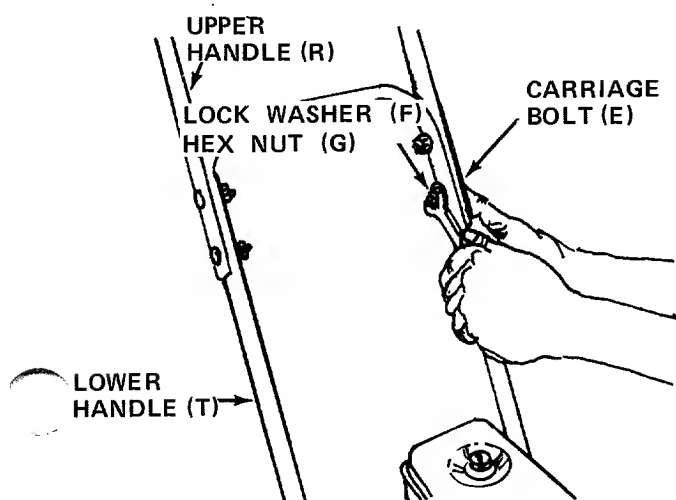

FIGURE 5.
6. Assemble the upper handle (R) to lower handle. Place the head of carriage bolts (E) to the outside of handle. Secure with lock washers (F) and hex nuts (G). See figure 5.